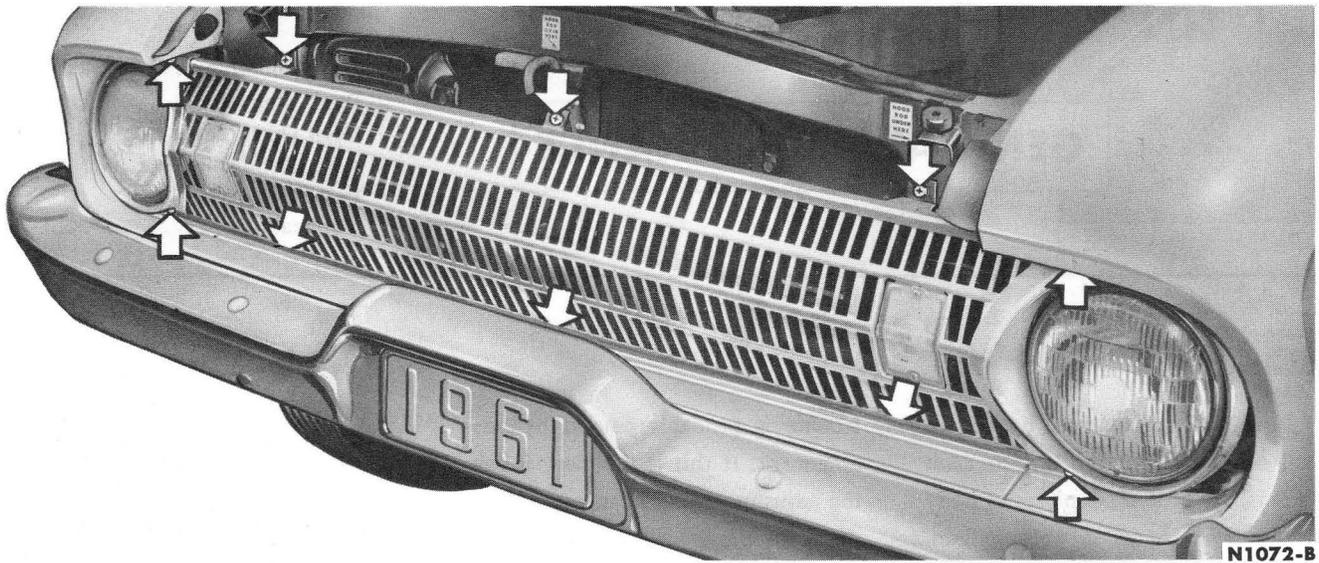

FIG. 3—Grille Retaining Bolt Locations
2. After removing the bumper, remove the grille retaining bolts, and remove the grille (Fig. 3).